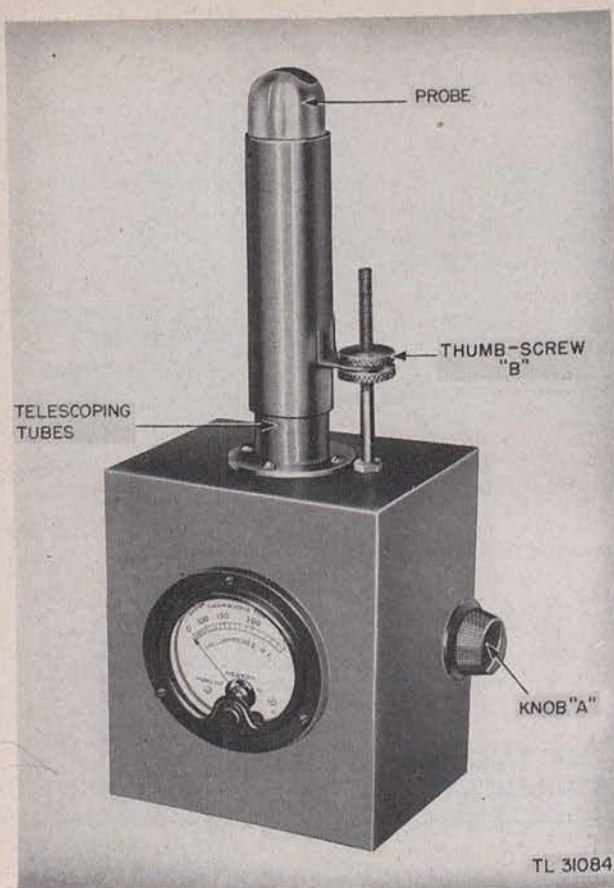

Figure 23. Test Set I-148-A, standing-wave indicator.
b. **CONTROLS** (fig. 23). A knob on the side of the instrument is used to tune the parallel-resonant circuit to the frequency of the transmission line. A thumbscrew on the top of the instrument is used to adjust the capacity coupling to the line. Adjustment is necessary to obtain a suitable meter reading.
(1) Place the insulated probe of the test set at a convenient point on the transmission line. Be certain that the instrument is held at an exact right angle to the transmission line, and that this position is maintained during all successive readings. Furthermore, the instrument should be grasped with the same degree of firmness throughout the series of measurements.
(2) Adjust the thumbscrew to obtain a convenient meter reading.
(3) Adjust the tuning knob for a maximum meter reading.